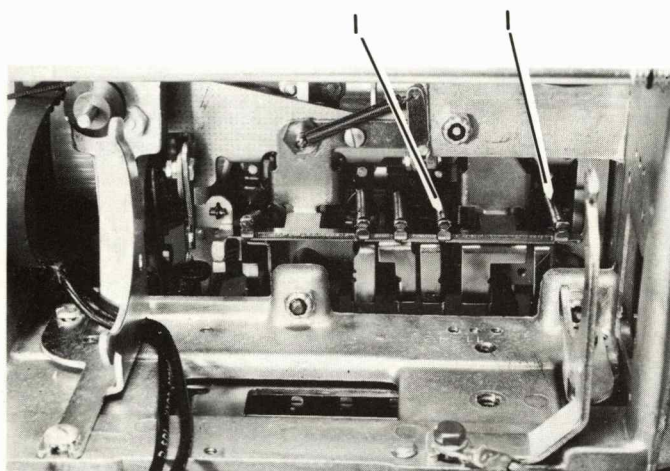

FIGURE 24. Tilt Selection Differential Removal
4. Remove the tilt-latch springs (#1, Figure 24).